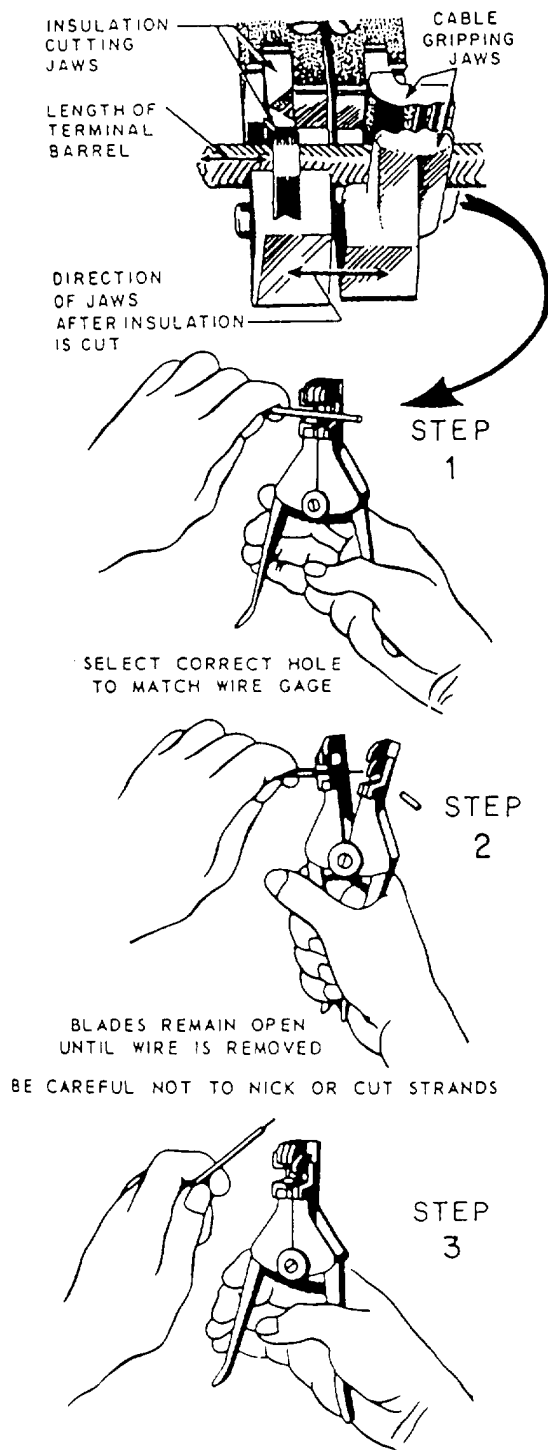

Figure 2-55.—Stripping wire with a hand stripper.
**CONDUCTOR ENDS.**— Hand wire strippers (fig. 2-54) are used to strip insulation from the conductors. Figure 2-55 shows the proper procedure for stripping conductor ends using the hand wire